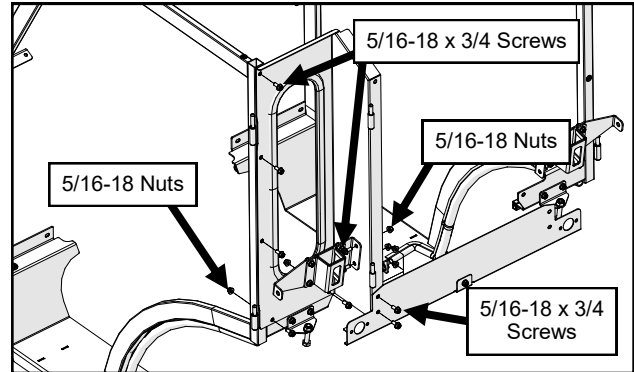

Fig. 5.1 (Attach Rear Leg)
- 5.1 Slide the left rear leg between the side frame, ROPS, and lower rear cross, and secure with hardware. See Figure 5.1.